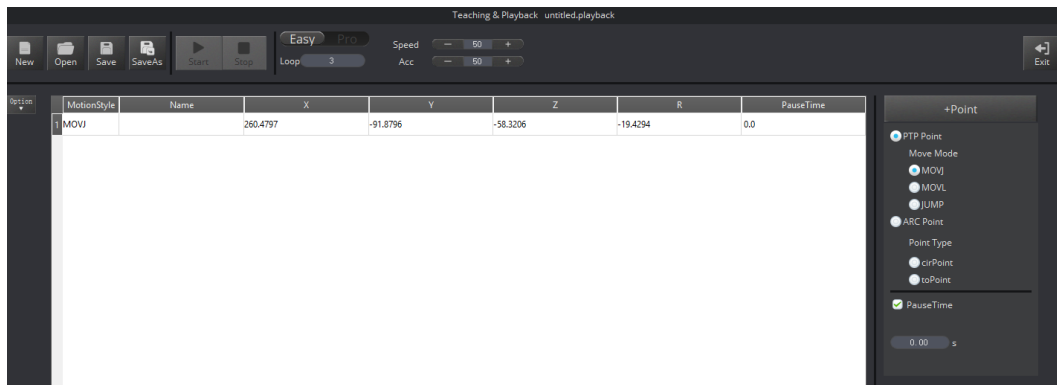

Figure 5.18 Save the start position A
4. Click **+Point** to save the coordinate corresponding to the position A, as shown in Figure 5.18.